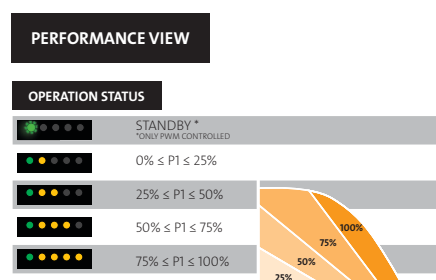

Fig. 43 Operation area according to performance load
- When the circulator is running, LED 1 is green. The four yellow LEDs indicate the current power consumption (P1) as shown in the table below. See fig. 43.